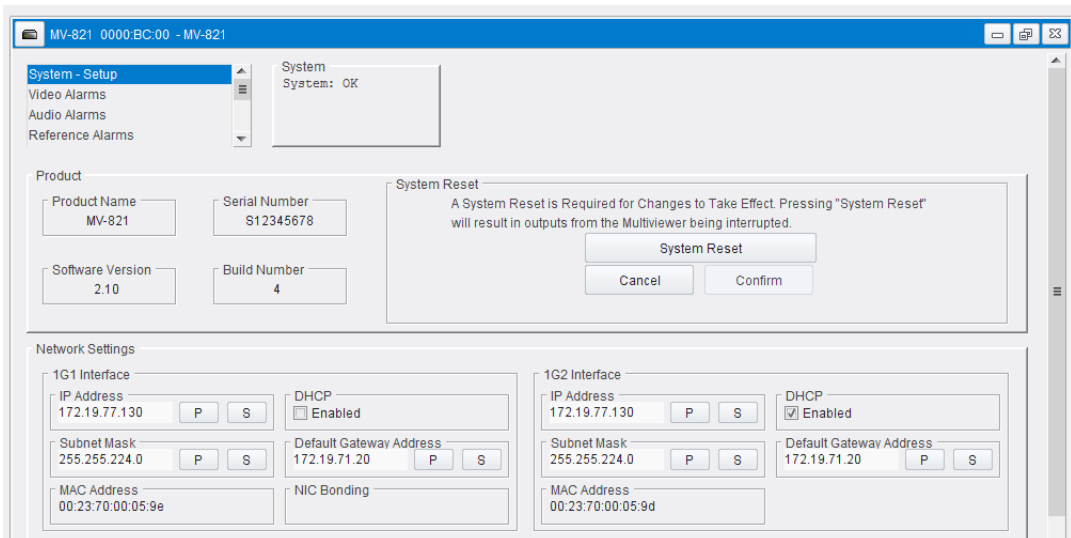

Fig. 8-6: MV-8 Series Multiviewer RollCall Templates
- 6 The MV-8 Series Multiviewer Rollcall templates are automatically downloaded and then displayed in the pane on the right. See Figure 8-6.